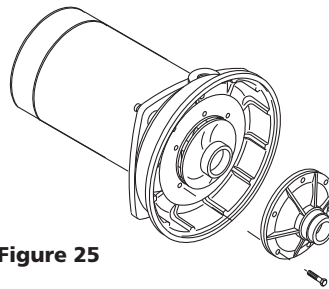

Figure 25
1. Remove five screws fastening diffuser to seal plate; remove diffuser (See Figure 25). Exposed impeller can now be cleaned.